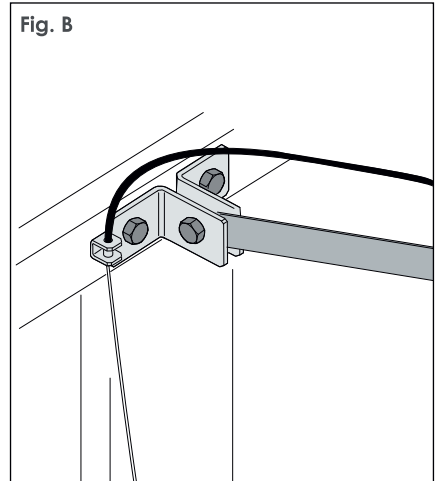

Fig. C1
- 4) Fasten the steel cable directly to the lock catch (Fig. C1) or to the door's handle by piercing it (Fig. C2).